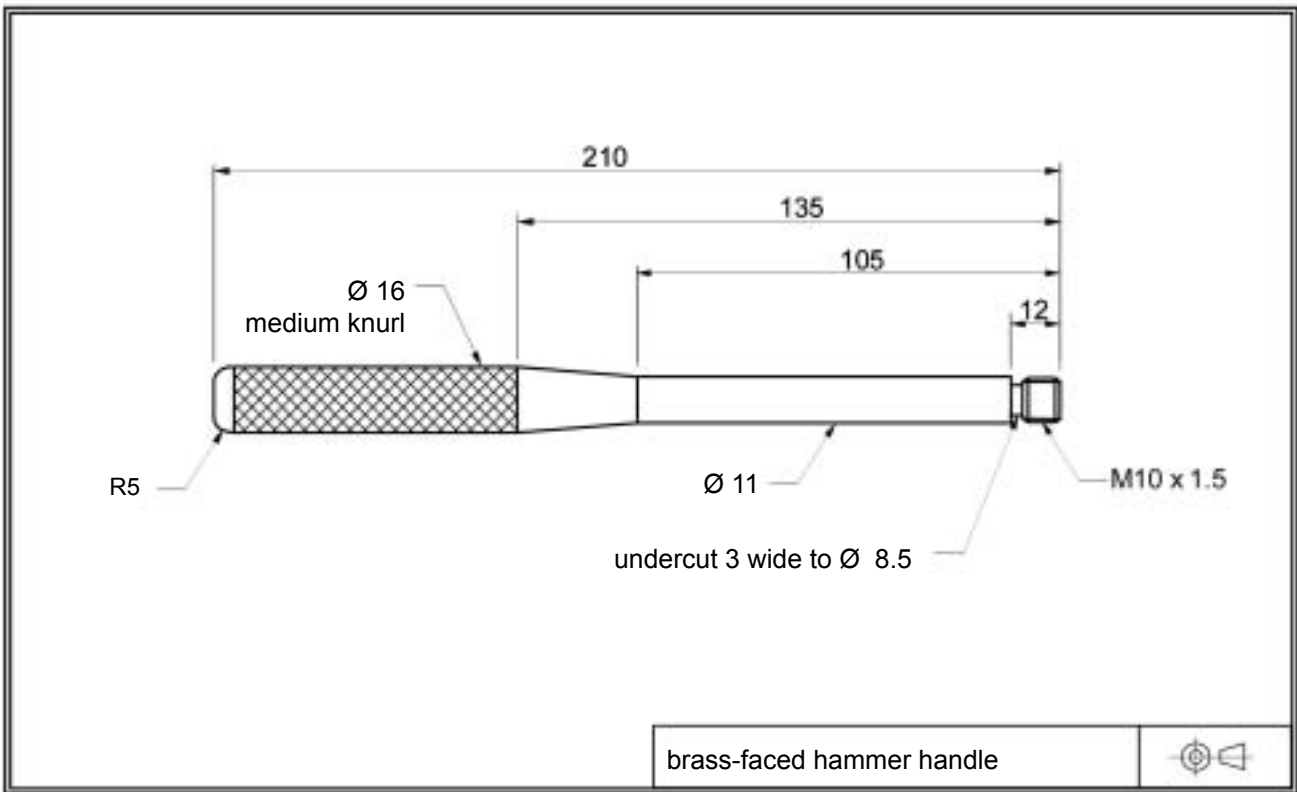

Figure 2
Figure 2 shows a detailed drawing of the handle.
b. The material for the handle (Figure 2) is being cut from a 3 metre long bar.